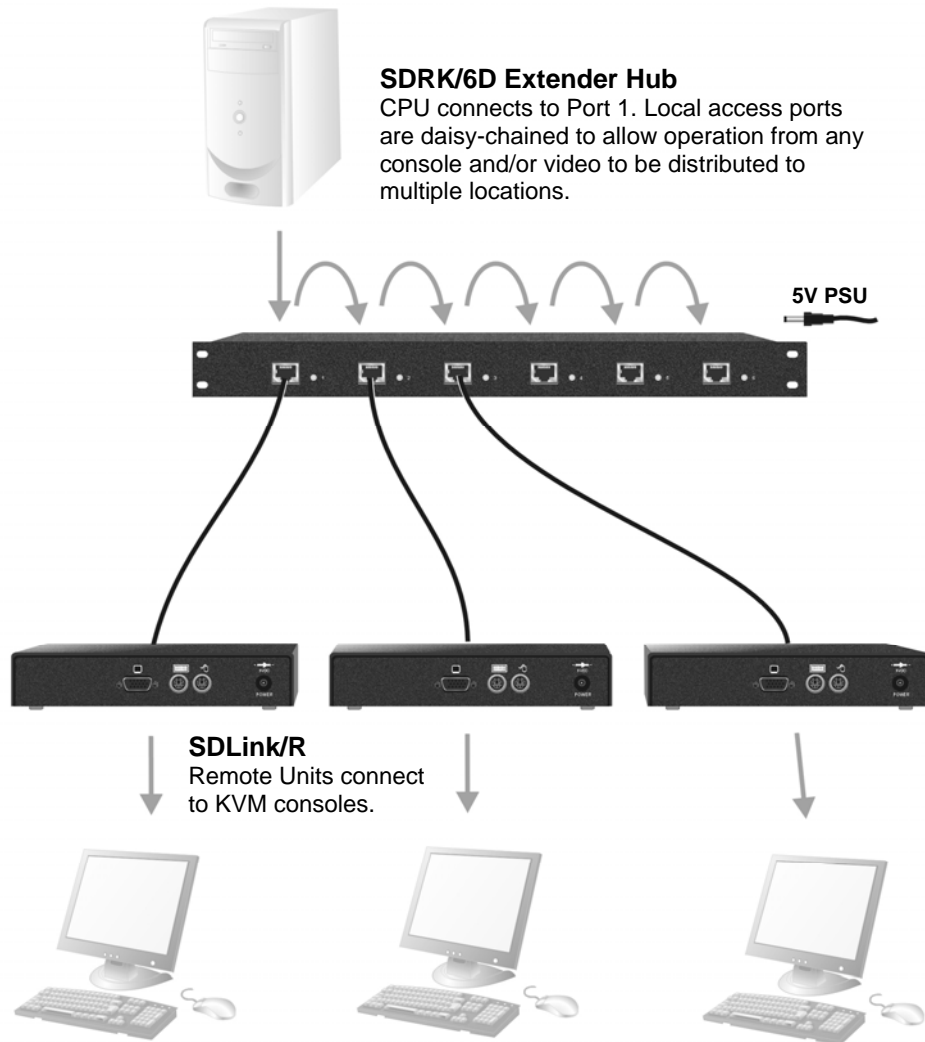

Figure 16 Information distribution system sharing a single PC
- Information distribution system sharing a single PC at up to six remote locations (Figure 16).